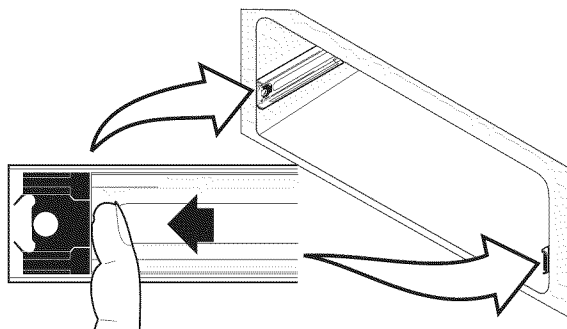

Figure 2
1. Pull the plastic slider to the front of the glide slots on each side of the drawer cavity (See Figure 2).